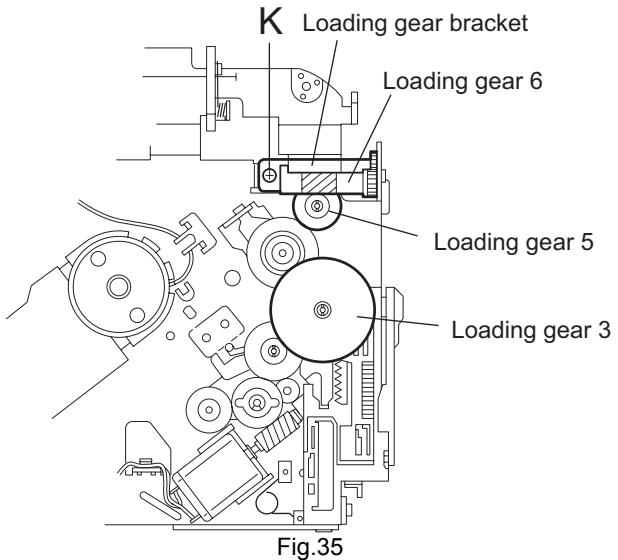
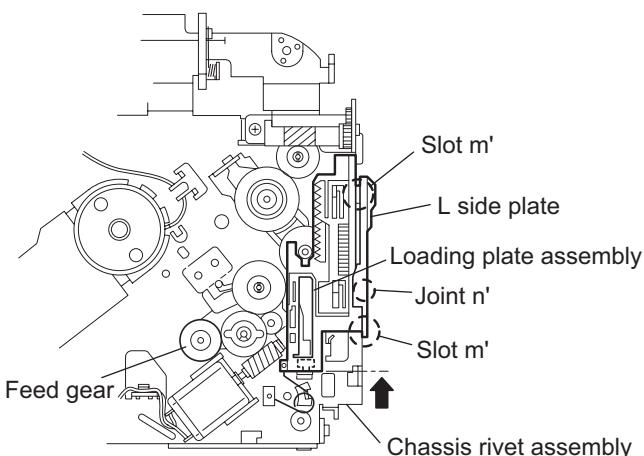
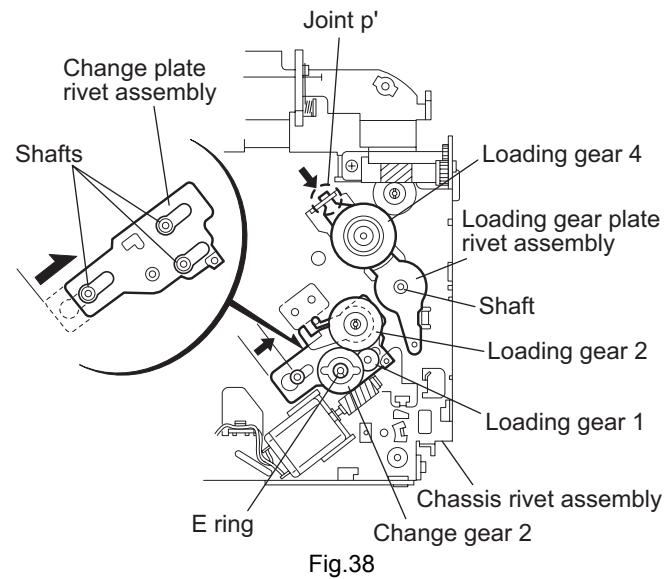

Fig.35
Fig.37
Fig.38
(See Figs.35 and 36)
(See Figs.37 to 40)
- Pull out the loading gear 3. (See Fig.35.)
- (1) Pull out the feed gear.
(2) Move the loading plate assembly in the direction of the arrow to release the L side plate from the two slots m' of the chassis rivet assembly. (See Fig.37.)
(3) Detach the loading plate assembly upward from the chassis rivet assembly while releasing the joint n'. Remove the slide hook and loading plate spring from the loading plate assembly.
(4) Pull out the loading gear 2 and remove the change lock lever.
(5) Remove the E ring and washer attaching the changer gear 2.
(6) The changer gear 2, change gear spring and adjusting washer come off.
(7) Remove the loading gear 1.
(8) Move the change plate rivet assembly in the direction of the arrow to release from the three shafts of the chassis rivet assembly upward. (See Fig.38.)
(9) Detach the loading gear plate rivet assembly from the shaft of the chassis rivet assembly upward while releasing the joint p'. (See Figs.38 and 40.)
(10) Pull out the loading gear 4.